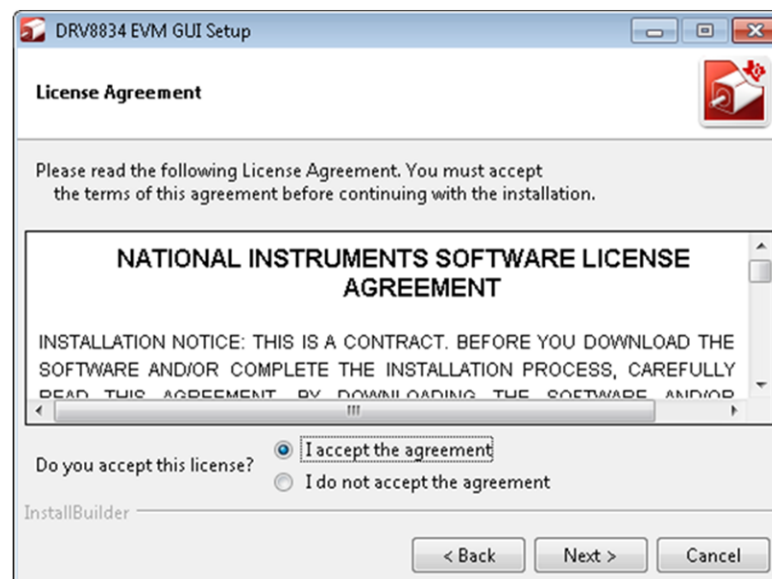

Figure 5. NI License Agreement
4. A screen as shown in Figure 5 appears, displaying the license agreement of National Instruments. Please read through the agreement carefully and enable the “I Accept the License Agreement” radio button and press the **Next** button.